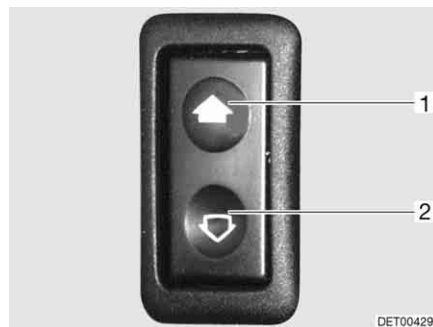

Fig. 23 Switch for electrical window winders
- Opening:* ■ Press lower part of the switch (Fig. 23,2).
- Closing:* ■ Press upper part of the switch (Fig. 23,1).